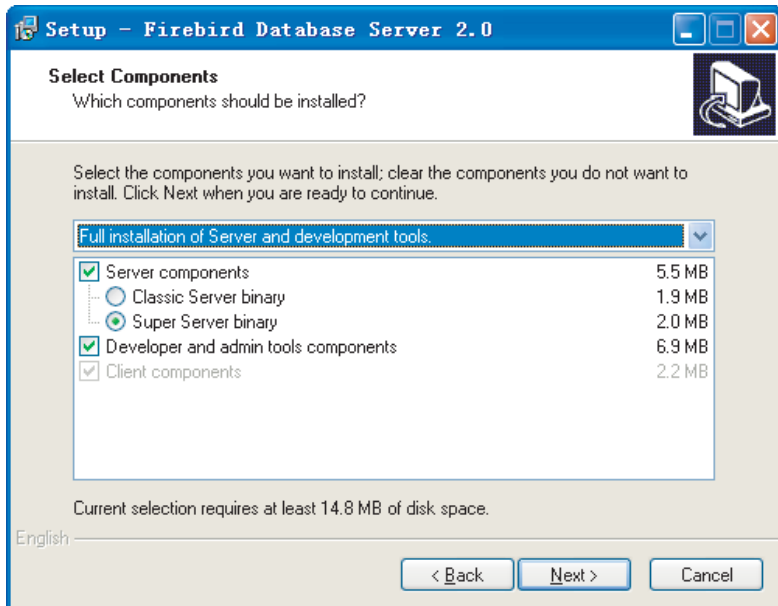

Fig. 2-7
6) Installation window as Fig. 2-7, select the items as Fig. 2-7, and click “Next” to continue the next step installation: